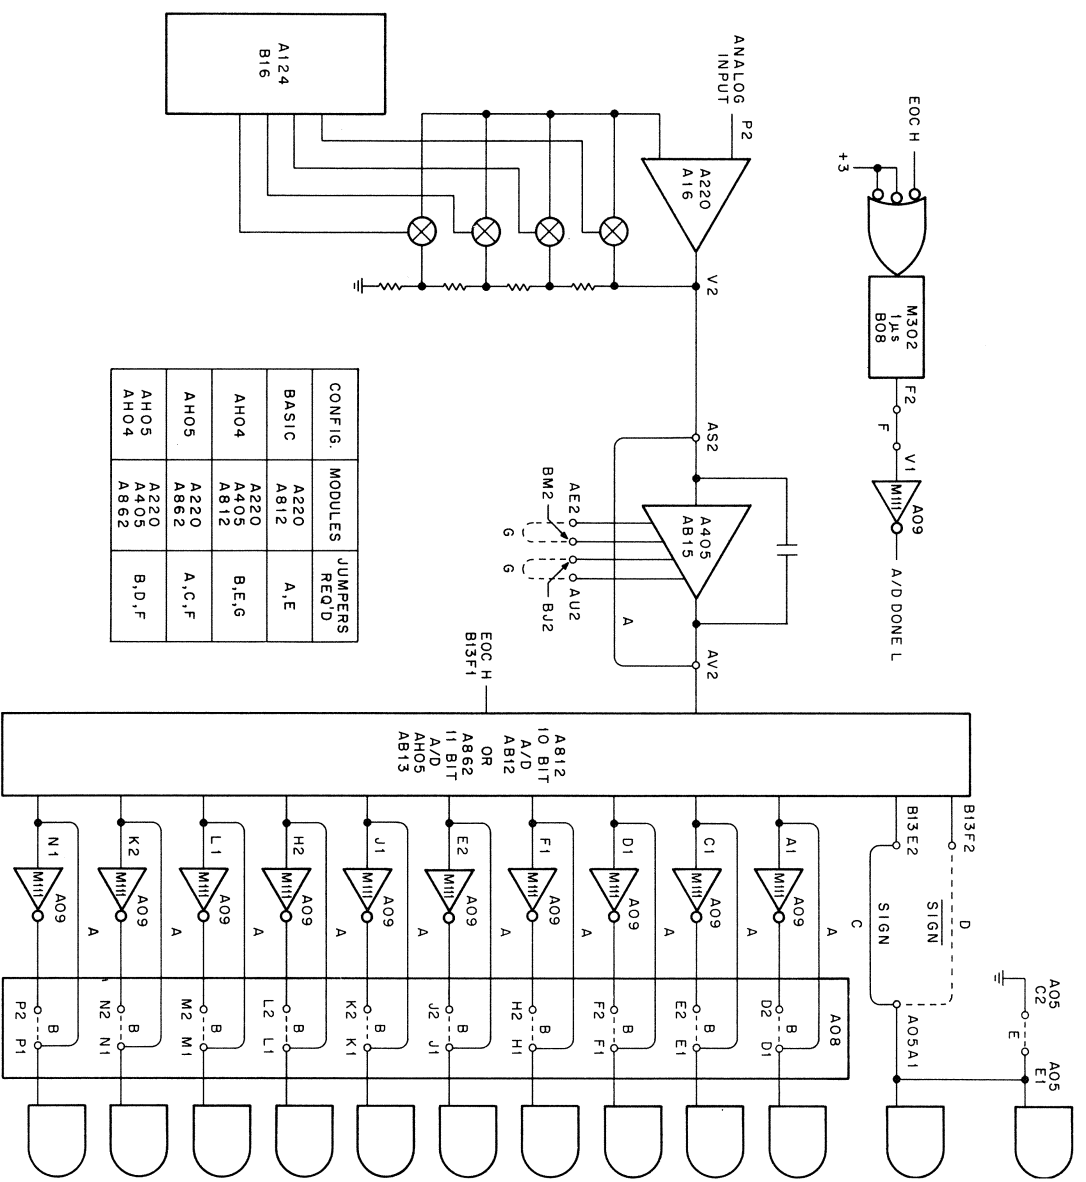

Figure 2-1 Option Configuration Diagram
The AD01-D options necessitate some changes in the back panel wiring. All information regarding the wiring for each option configuration is given in Figure 2-1. Add and/or delete wires according to this diagram when installing options.
- 1 Ensure that all proper jumpers (except those marked G) are installed (see Figure 2-1).
| 1    | Ensure that all proper jumpers are installed (see Figure 2-1).   |